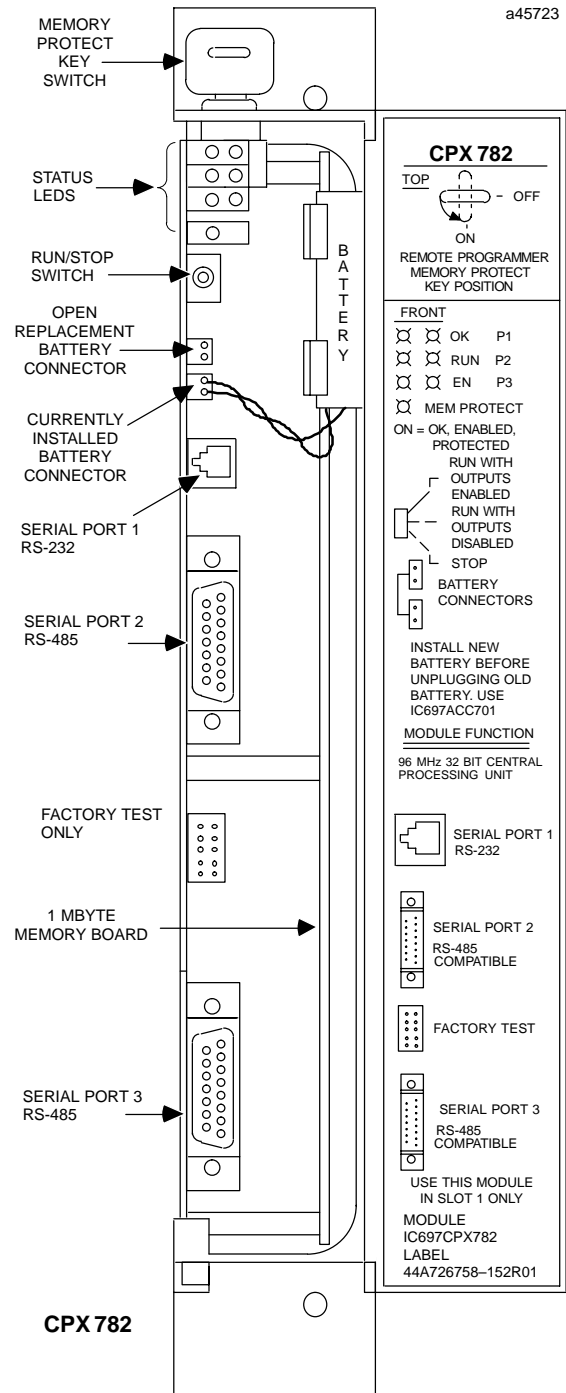

Figure 2. CPX 782 - Location of Major Features
- Connect the battery to either of the battery connectors on the module (see Figure 2).
A lithium battery (IC697ACC701) is installed as shown in Figure 2. This battery maintains program and data memory when power is removed and operates the calendar clock. Be sure to install the new battery before removing the old battery. Specific indication of a low battery state is detailed in the applicable *Programmable Controller Reference Manual*.